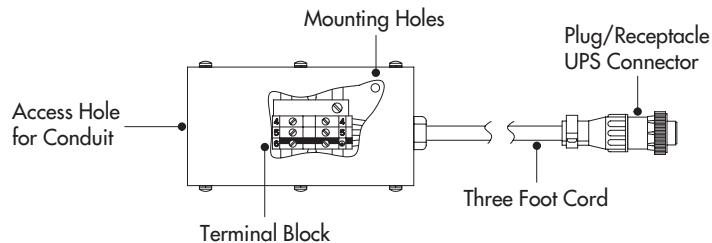

Figure 10. REPO Cord Junction Box
- 1 Place the conduit through the access hole on the junction box (see Figure 10). Connect the exposed conduit wires to the corresponding compression terminals (see the following table). Tighten the compression terminals with a screwdriver.